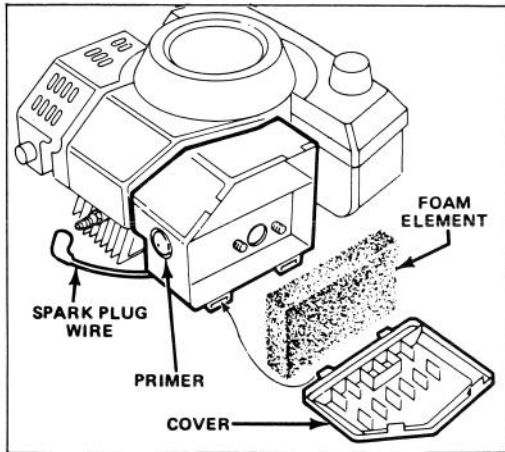

Figure 9
1. Stop engine and pull wire off spark plug (Fig. 9).
2. Lift tabs at top of air cleaner cover and pivot cover down. Clean cover thoroughly (Fig. 9).
3. If outside of foam element is dirty, remove it from air cleaner body (Fig. 9). Clean thoroughly.
2. Clean around spark plug and remove plug from cylinder head (Fig. 9).